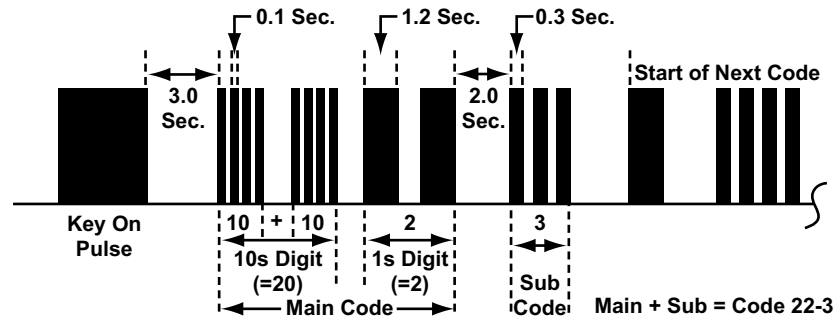

Figure 4-27 Acura SRS Code Type 06
- Type 06, see Figure 4-27 and Table 4-13 on page 30